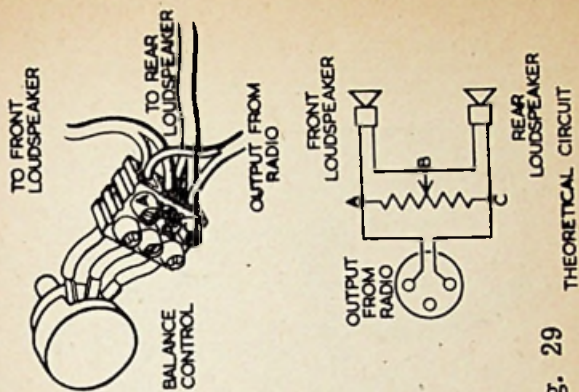

Fig. 29
- (8) Route loudspeaker lead from boot into car and down over wheel arch to floor of car. Continue routing lead under carpet and up behind bulkhead trim to front edge of facia panel on off-side of steering column.
- (9) Connect front loudspeaker lead, loudspeaker lead from receiver and rear loudspeaker lead to balance control. See Fig. 29.
- (10) Assemble balance control to small mounting bracket provided and secure bracket to front edge of facia on the off-side of the steering column.
- (11) Replace rear squab and rear seats etc.